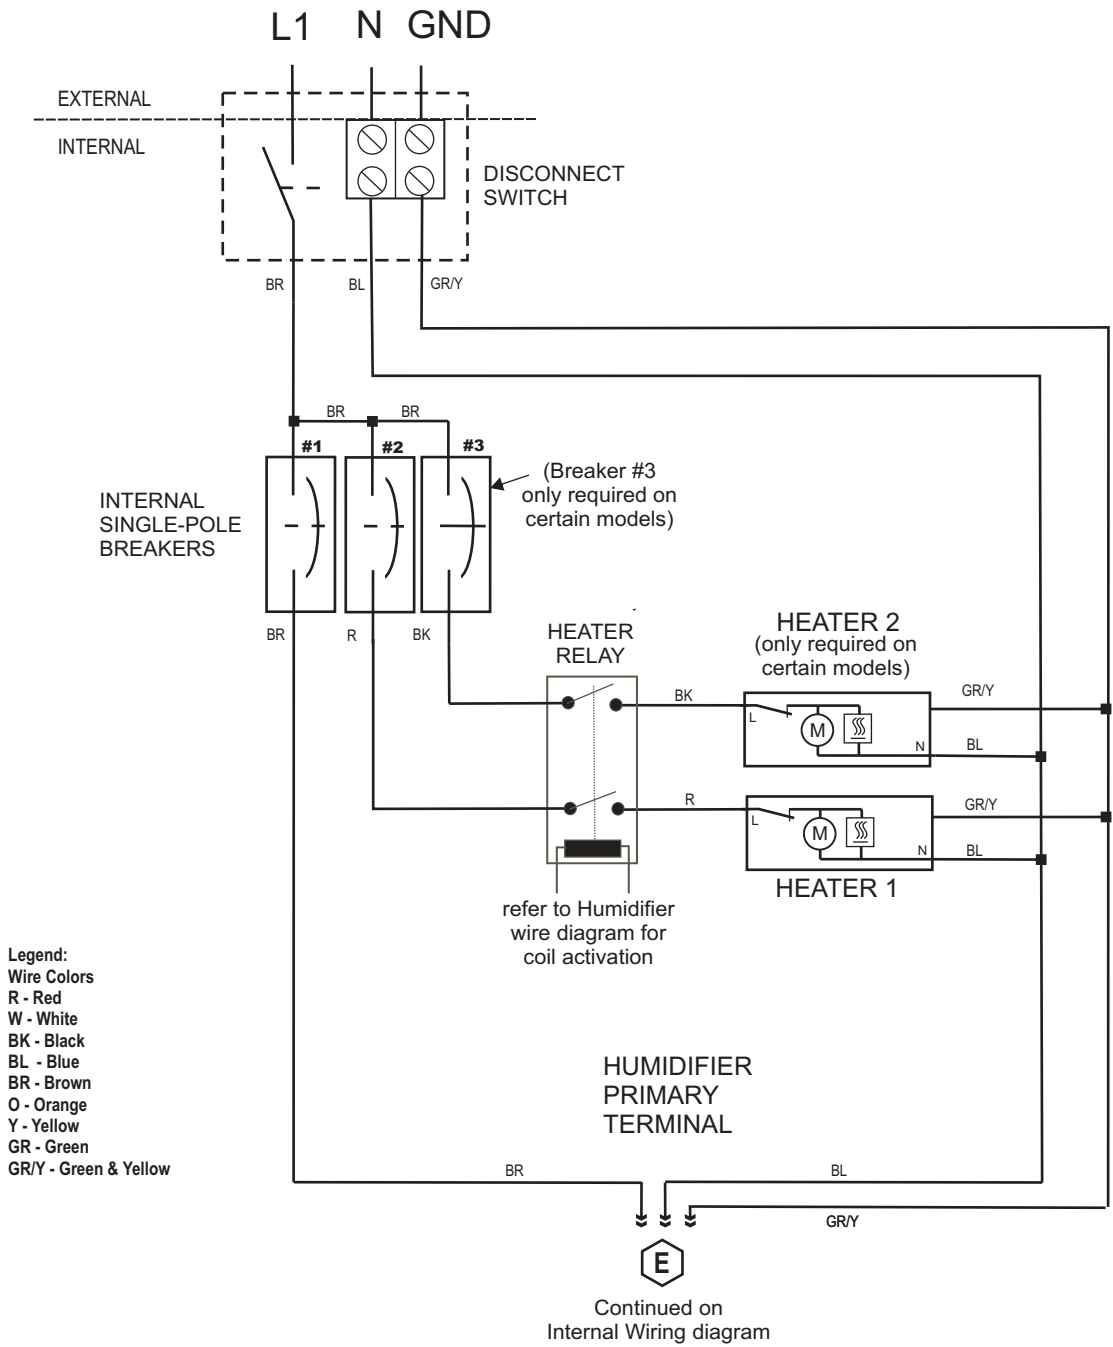
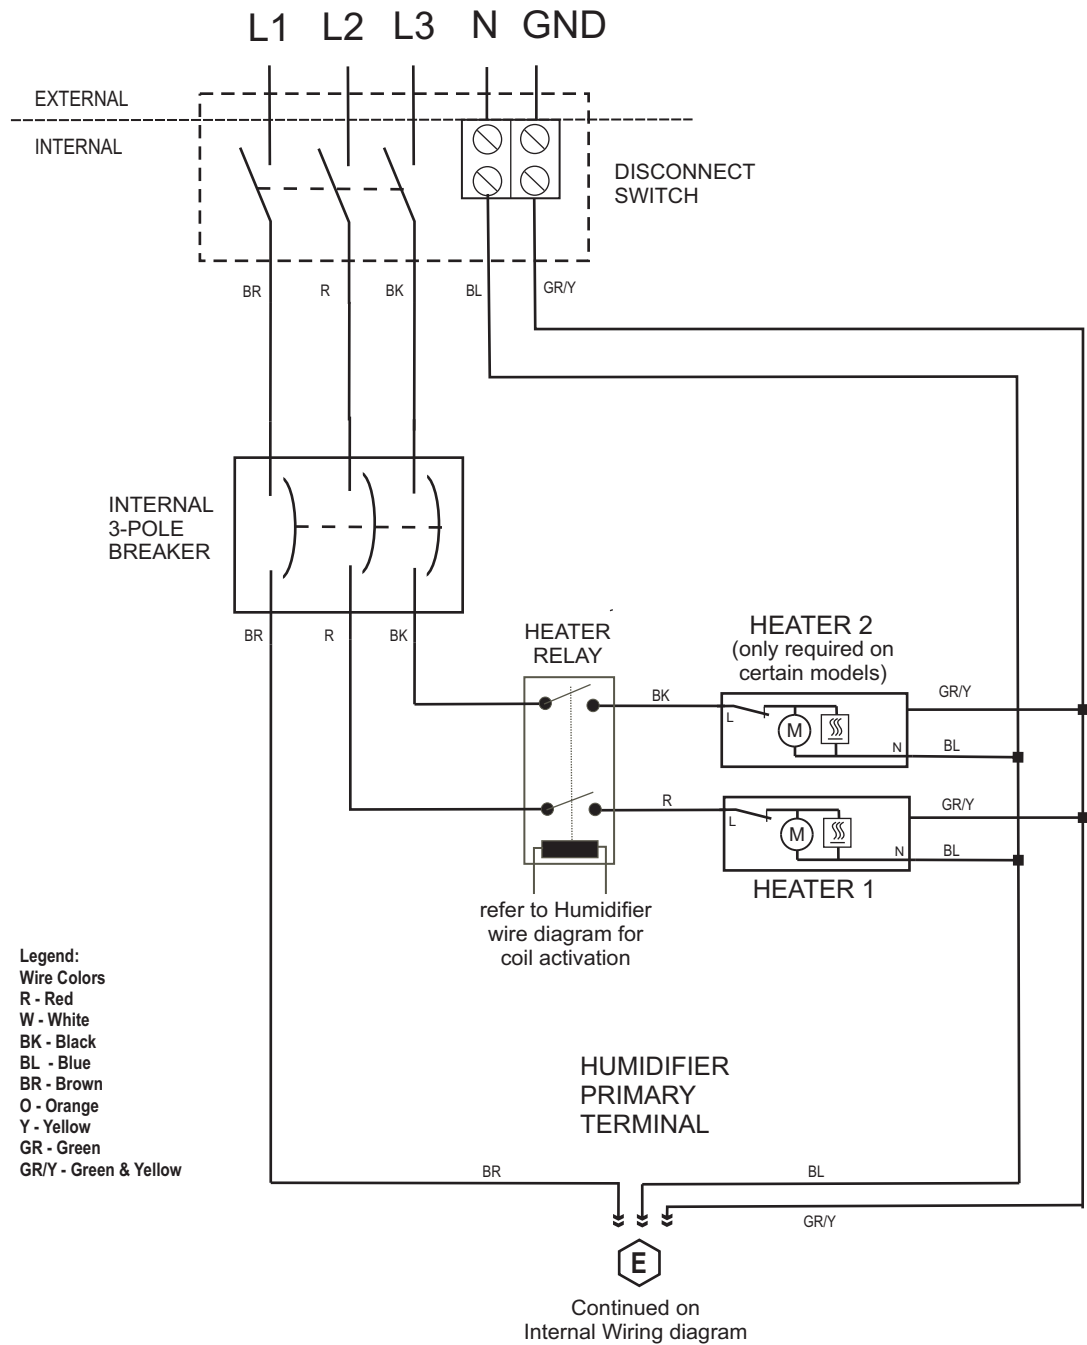

Fig. 18: Supplementary wiring diagram 120V/1ph Voltage Supply for Condair GS 50 OC - GS 600 OC (reference document 2604624, revision A)
Fig. 19: Supplementary wiring diagram 208V/3ph Voltage Supply for Condair GS 50 OC - GS 600 OC (reference document 2604625, revision A)
- Route the power cable via a cable gland into the electrical isolator and connect it to the corresponding terminals according to the appropriate wiring diagrams (see Fig. 18 on page 50 or Fig. 19 on page 51).
Fig. 18 shows the supplementary wiring diagram for the 120V/1ph voltage supply for the Condair GS 50 OC - GS 600 OC.
Fig. 19 shows the supplementary wiring diagram for the 208V/3ph voltage supply for the Condair GS 50 OC - GS 600 OC.
- Power supply connected via the electrical isolator on the humidifier according to the appropriate wiring diagram (see Fig. 18 on page 50 and Fig. 19 on page 51)?